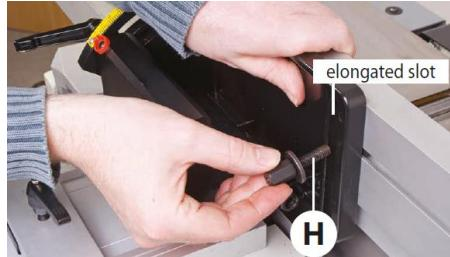

Fig 6
Insert the thread of one of the lift and shift handles (H) through the elongated slot and screw it into the fence mounting plate, see Fig 6.